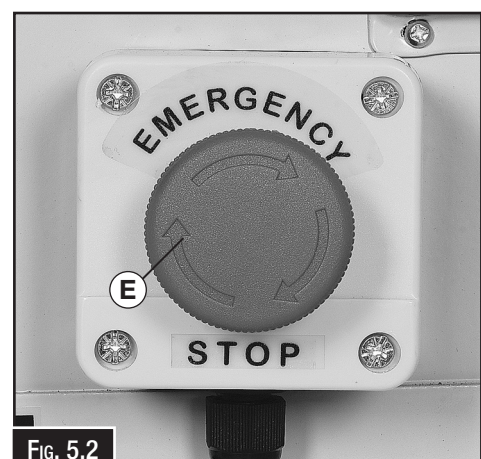

Fig. 5.2
- E Emergency Stop Button:** Stops the motor and prevents it from starting until the button has been reset. (Fig. 5.2)